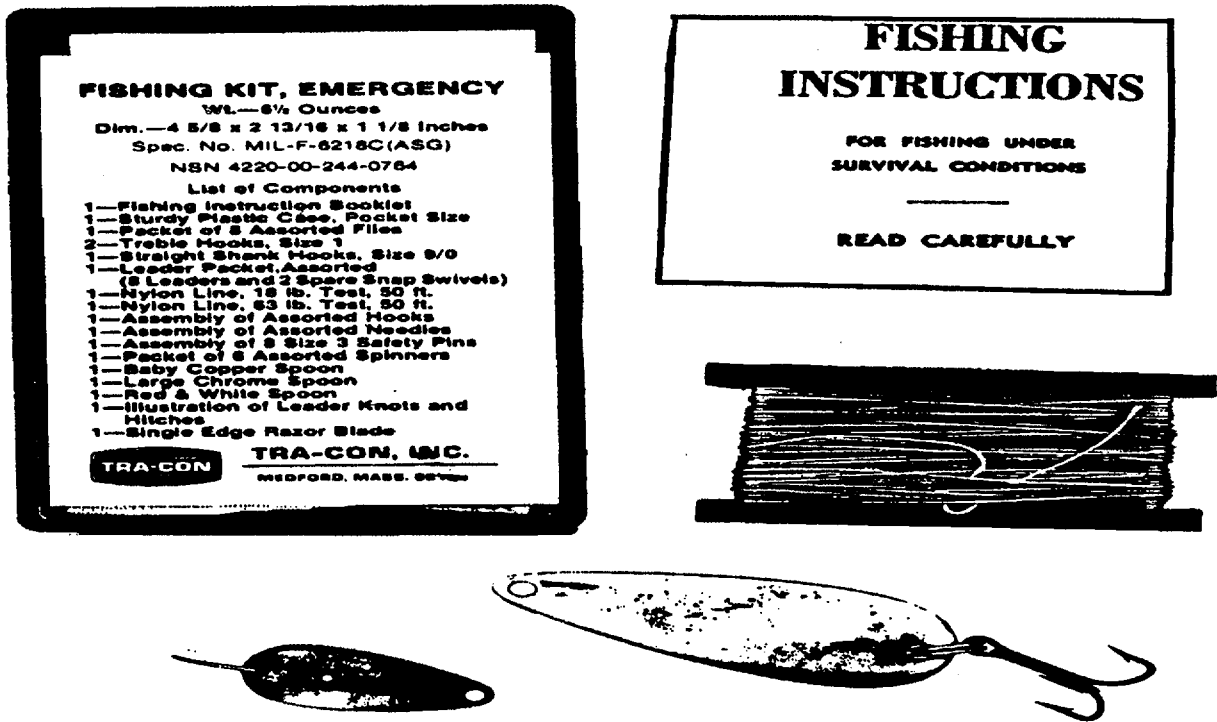

Figure 2-83. Fishing Tackle Kit
- bi. Fishing Tackle Kit. The fishing tackle kit (See Figure 2-83) contains hooks, line, lures, swivels, sail maker's needles, and two strips of cloth that can be used as lures for catching fish. Fishing instructions, printed on water-proof paper, are provided with this kit. Supplemental instructions are provided in the survival manual.